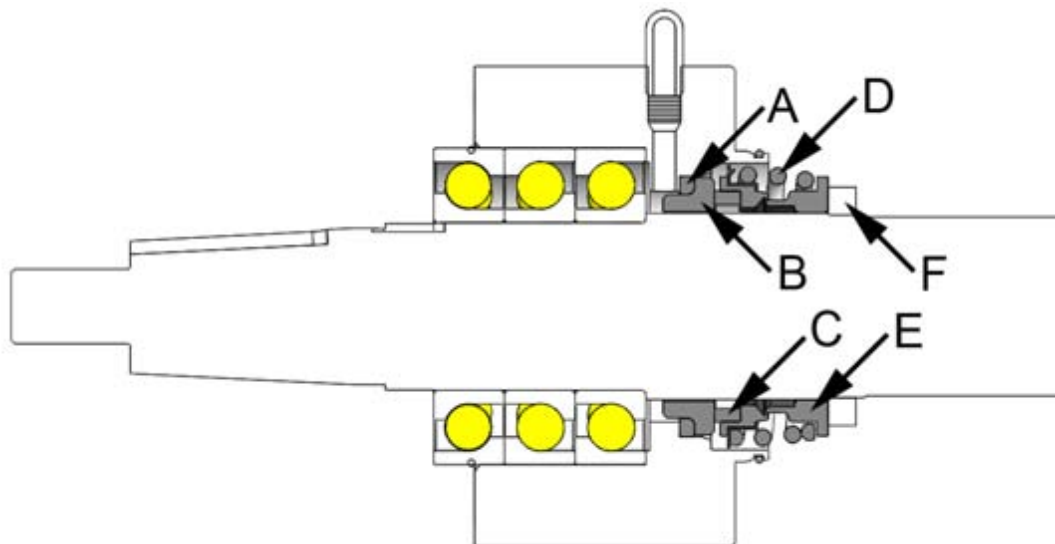

Figure 9. Cross-section of the mechanical seal
The bearing housing comes off together with the bearings and the mechanical seal's static slip-ring (figure 9, point B).
The mechanical seal consists of several parts (figure 9).
Support ring F (figure 9) is attached to the shaft with a crimped joint. It can be removed by heating, for example. Parts A and B (figure 9) are removed by pushing them from the bearing side.
- 1.1. Heat the sealing support ring (figure 9, point F) until it slips into its place unobstructed.
- 1.4. Push the rotating part of the mechanical seal (figure 9, points C, D, and E) into place against the support ring.
2. Push the static part of the mechanical seal into the bearing housing spacer together with the seal (figure 9, points A and B).